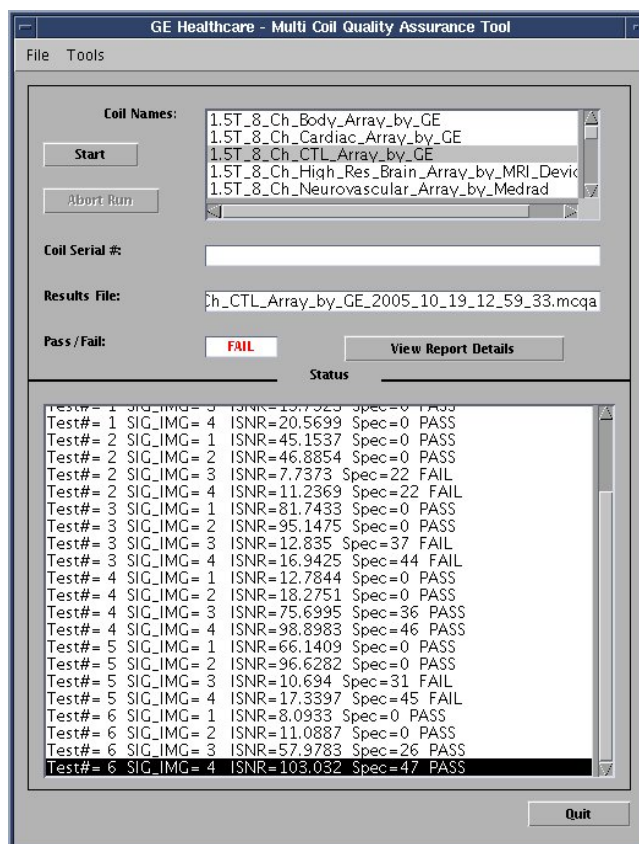

Figure 2: Output reported with PASS or FAIL for entire coil and for each test and channel
- After the test is completed, you will see another window with the test results (Figure 2).